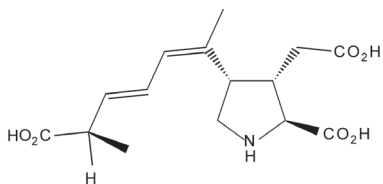

FIGURE 1:
Domoic acid (DA) and DA derivatives are water-soluble neurotoxins produced by a number of marine algae, in particular by the microalgae of the genus *Pseudo-nitzschia* spp (Fig. 1). Blooms of *Pseudo-nitzschia* may lead to the accumulation of DA in shellfish filter feeders and other marine species [Scholin et al., 2000]. Ingestion of DA contaminated shellfish may lead to amnesic shellfish poisoning (ASP) by affecting the central nervous system, and has caused the death of both animal and human consumers in severe cases [Wright et al., 1989]. The European commission Directive 2002/226/EC implemented a maximum permitted level (MPL) of 20 mg DA equivalents/kg shellfish intended for human consumption. This MPL is adopted by most food safety authorities.